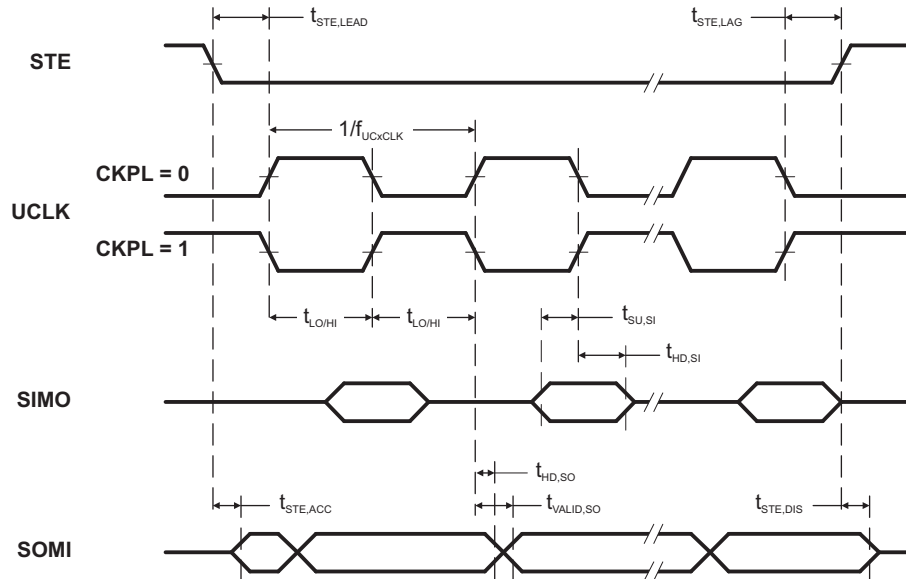
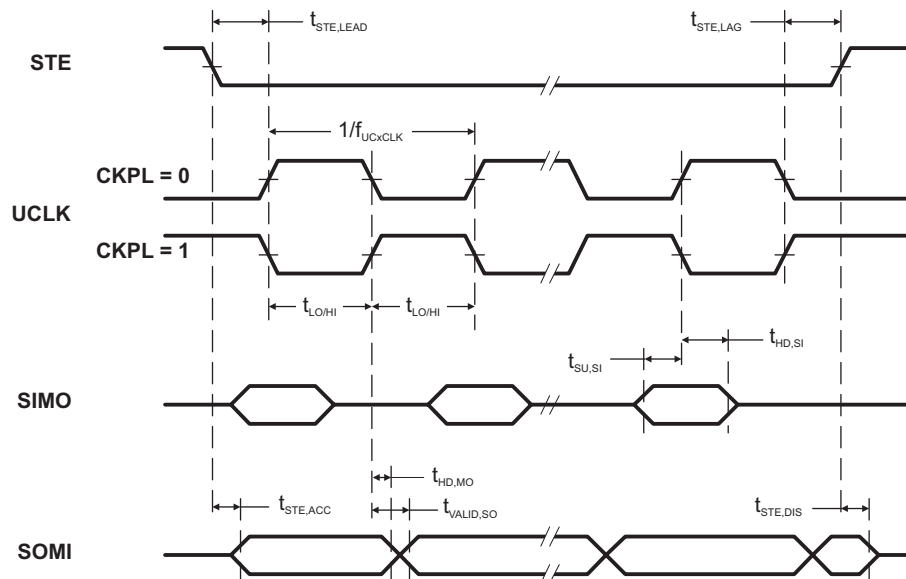

Figure 17. SPI Slave Mode, CKPH = 0
Figure 18. SPI Slave Mode, CKPH = 1
(see Note (1), Figure 17 and Figure 18)